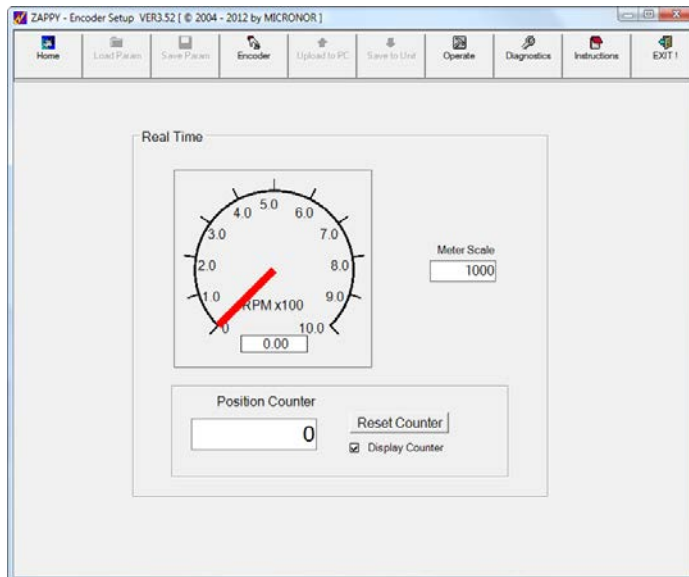

Figure 15. Initial OPERATE Screen if encoder is inactive.
- STEP 1.** Select [OPERATE] mode and observe the initial static screen display similar to Figure 15. Adjust RPM METER SCALE setting as desired by writing into the field. Click on [RESET] to zero the POSITION COUNTER.